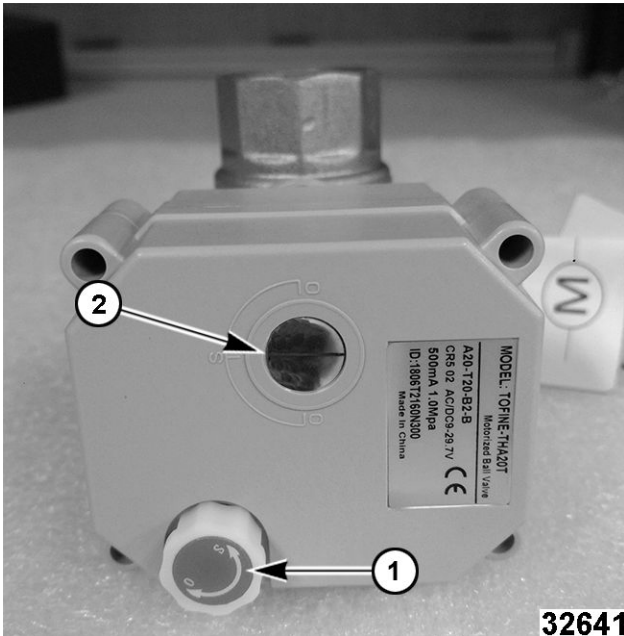

Fig. 64
- A. Pull knob (1, Fig. 64) out and turn while watching indicator window. Verify red line inside indicator window (2, Fig. 64) is horizontal (closed position) with valve body.